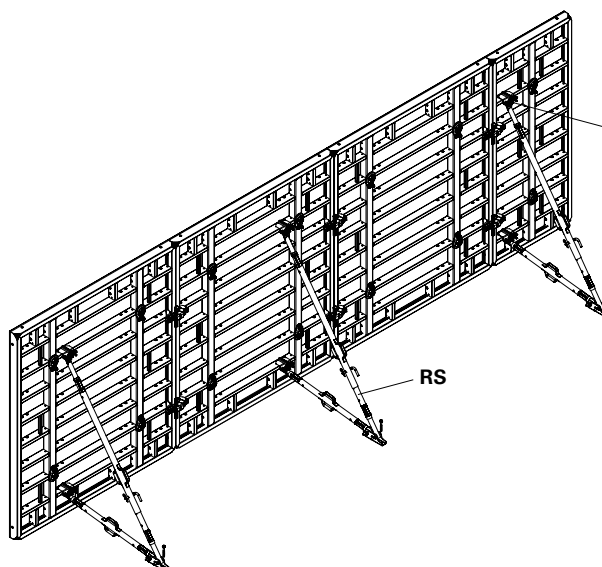

Fig. A6.04
1. Fix Push-Pull Prop or Kicker (46) to the connection lugs by means of pins and cotter pins. (Fig. A6.04 + A6.04a)